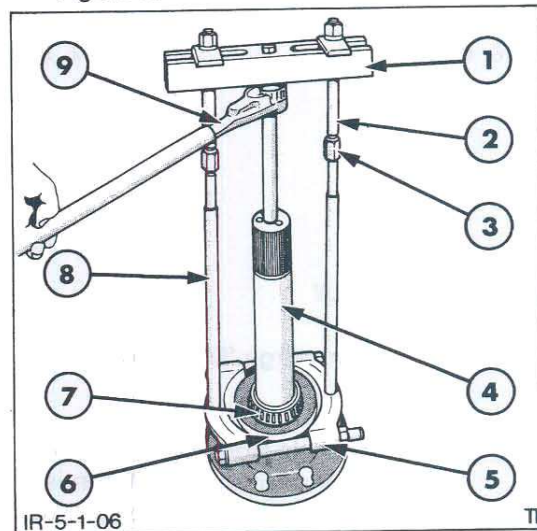

Figure 6
- If necessary remove the axle shaft cone and roller assembly, seal and seal retainer using Tool Nos. P61, 952, 938, 930B, 930E and 924, or Tool Nos. 9162, 9526, 9506, 9521, 9207 and 9537, Figure 6.